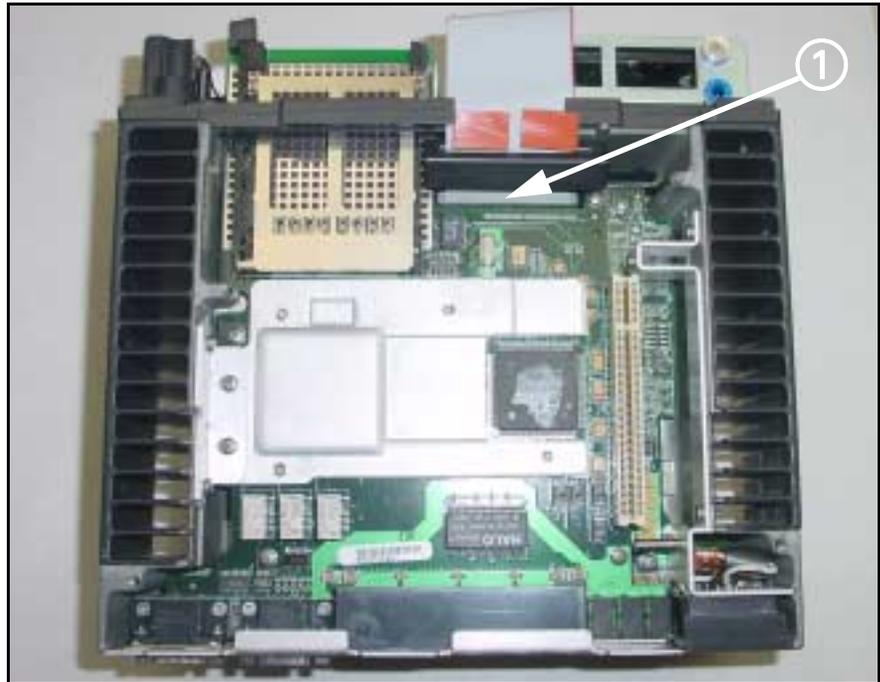

Figure 5-6 MDS (top cover removed)
2. Unplug ribbon cable connector (① in Figure 5-6) from motherboard, and fold back.